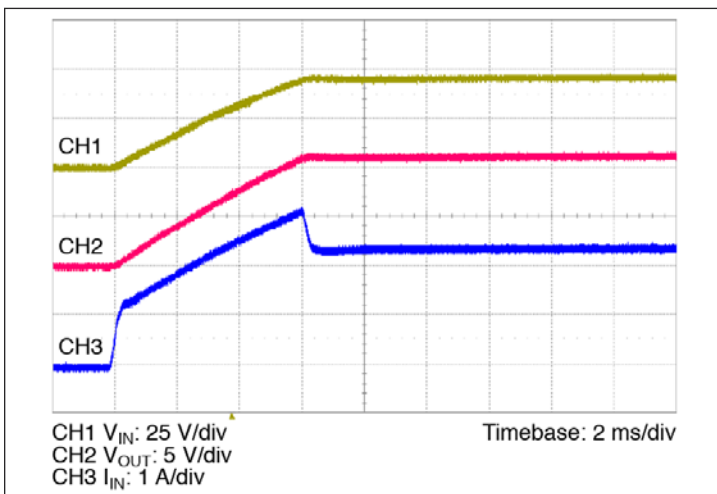

Figure 13 — Start up from application of V_{IN} ; VC pre-applied $C_{OUT} = 500 \mu$ F
- Normal Operation (VC applied prior to V_{IN}): In this case the controller is active prior to ramping the input. When the input voltage is applied, the VTM output voltage will track the input (See Figure 13). The inrush current is determined by the input voltage rate of rise and output capacitance. If the VC voltage is removed prior to the input reaching 26 V, the VTM module may shut down.